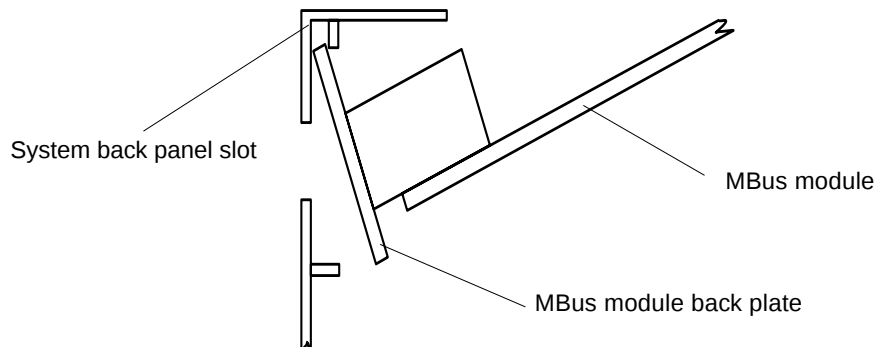

FIGURE 11-9 Seating a Double-Wide MBus Module back Plate, Side View
2. **Insert the MBus module back plate into the system back panel; hook the MBus module back plate into the back panel slot (FIGURE 11-9).**